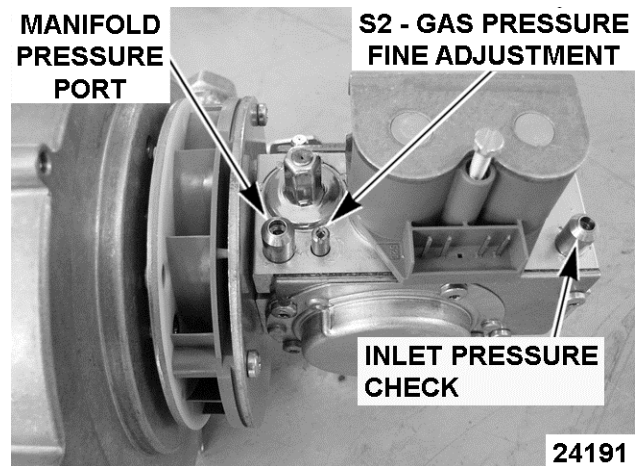

Fig. 42
9. Verify inlet pressure is 5-7" W.C. (natural) and 11-13" W.C. (propane). Refer to: Fig. 42.
1. Turn S2 gas pressure (Fig. 42) fine adjustment screw 1/4 turn (CW to increase; CCW to decrease).